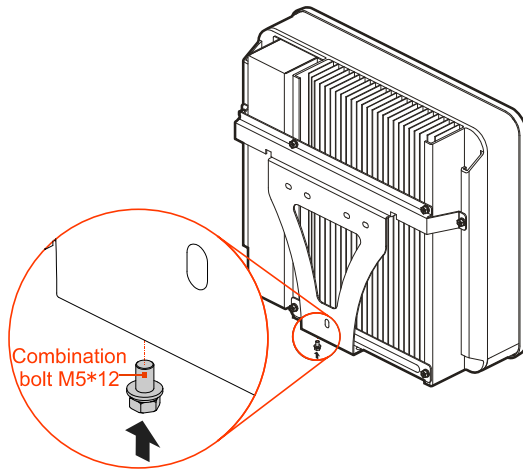
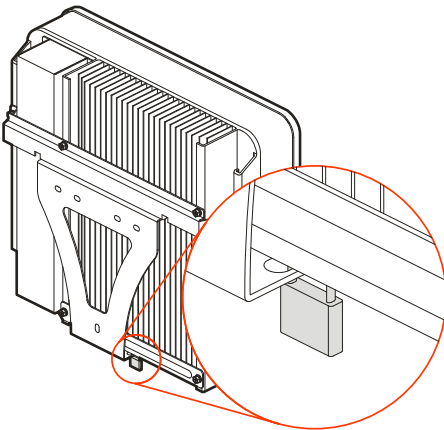

Figure3-12 Fasten the inverter
Figure3-13 Position of lock (The lock customer provided)
Step 6 Fasten the inverter to the installation holder by stainless steel combination bolt M5*12 (as shown in Figure3-12) and then lock it. The lock position is as shown in Figure3-13.